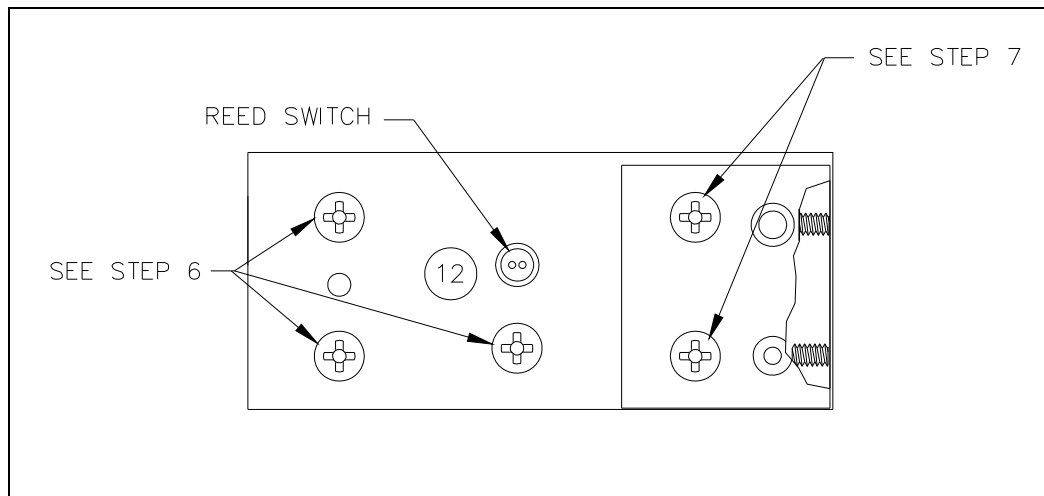

Figure 1.
6. Remove the three screws that secure the handset to the front panel. See Figure 1.
7. Remove the two screws securing the armored cord block. See Figure 1.